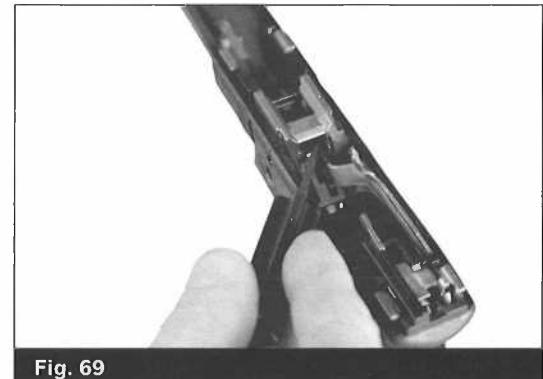

Fig. 69
- Lay the shaft of the pin punch across the left side of the frame with the tip under the locking block. By pressing downward on the punch handle, the tip will pry up the back end of the locking block. (Fig. 69)